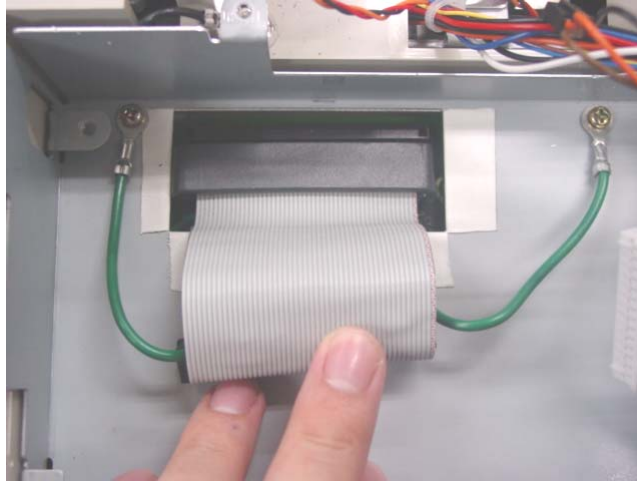

Figure 22 – Assembly of Flat Cable to Check Scanner Sub PC Board
7. Connect the Flat Cable to the Check Scanner Sub PC Board (Figure 22)